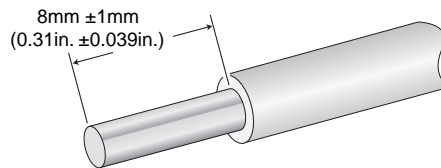

Figure 23. Stripped Wire
- With a 14-gauge wire-stripping tool, strip the two wires in the tray cable coming from the DC input power source to 8 millimeters \pm 1 millimeters (0.31 inches \pm 0.039 inches), as shown in Figure 23.